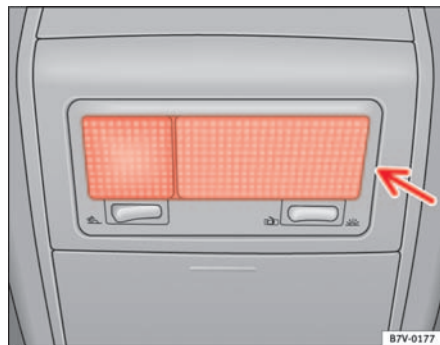

Fig. 170 Reading lights
- Turn the lampholder of the back of the lamp in the direction of the arrow ⇒ fig. 170 and separate.